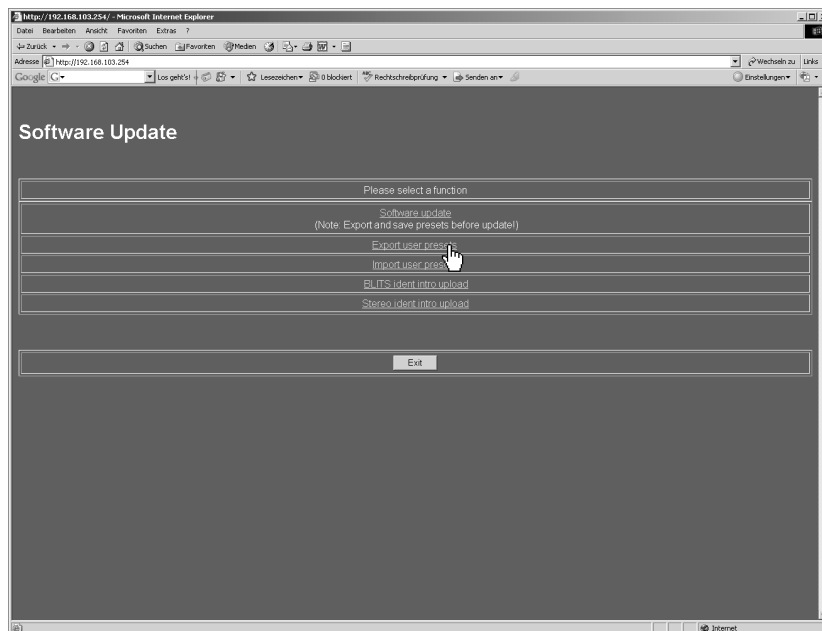
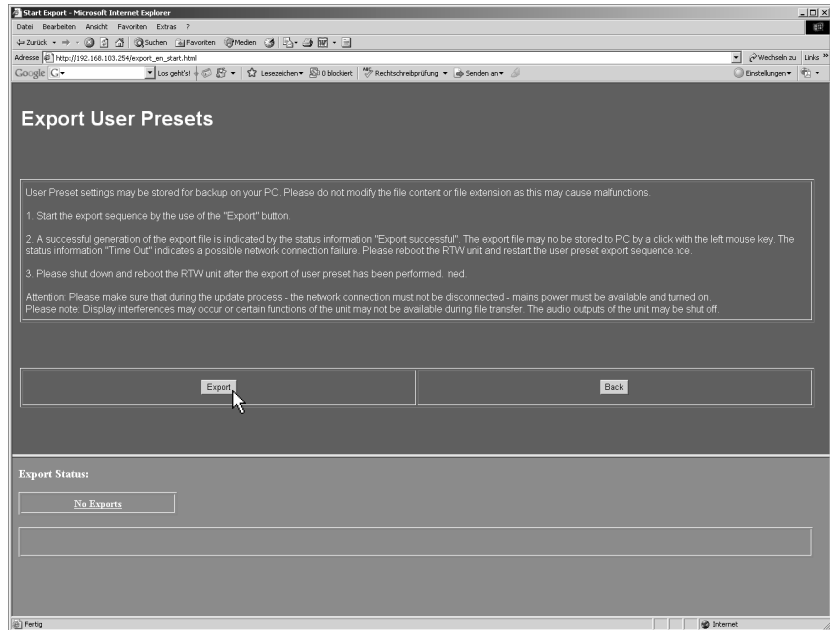
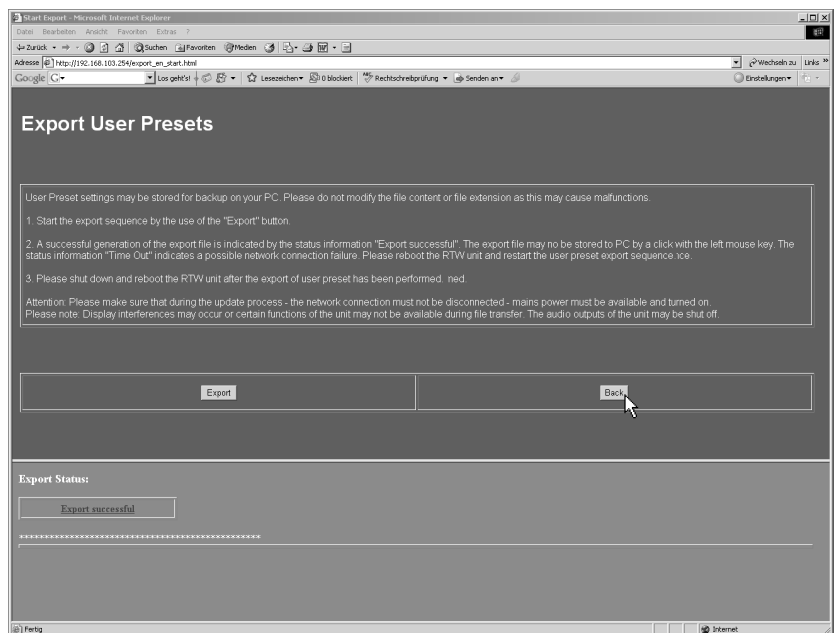

Fig. 8-10: Software Update Program menu in web browser
Fig. 8-11: Display of the Export menu page
Fig. 8-16: End of the export progress
2. The SurroundMonitor units should respond with a screen like the one shown in Fig. 8-10. Choose **Export user presets**. **Please note the instructions on the Export menu page** (see Fig. 8-11).
3. Please click the **Export** button (see Fig. 8-11).
- When saving the file was successful please click the Back button (see Fig. 8-16) to get back to the home page (see Fig. 8-10).
- If you want to leave the update program please click the Exit button (see Fig. 8-10). The SurroundMonitor units have to be restarted. Please wait approx. 5 s after shut down of the unit before you power it up again.